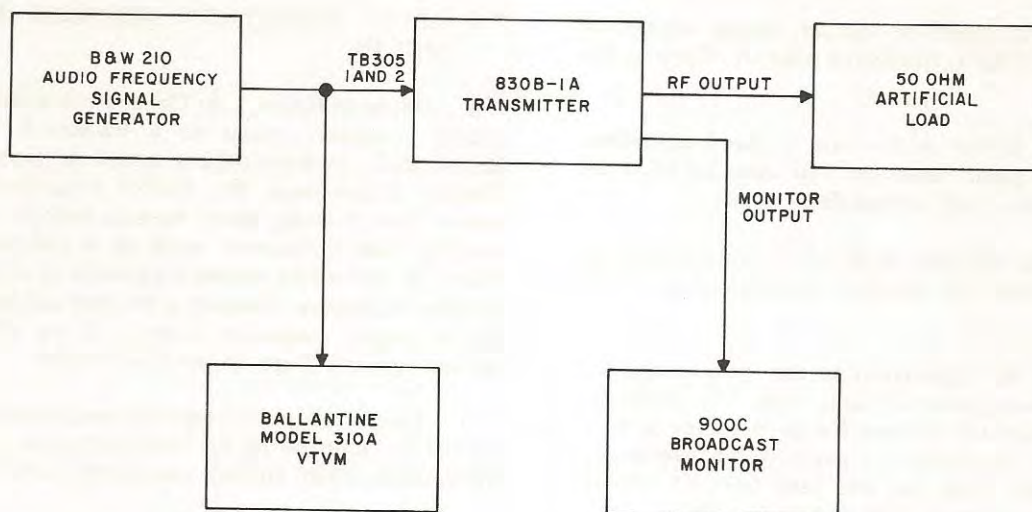

Figure 5-2. Audio Frequency Response Test Setup
a. Refer to figure 5-2. Connect an audio frequency signal generator, such as a Barker & Williamson Model 210, to terminals 1 and 2 of terminal board TB305. (Disconnect the station console audio input leads when making these measurements.) Connect a vacuum-tube voltmeter, such as a Ballantine Model 310A, to the audio output terminals of the audio frequency generator. Connect a 50-ohm artificial load to the rf output connector located on top of the transmitter cabinet. Turn on the transmitter.